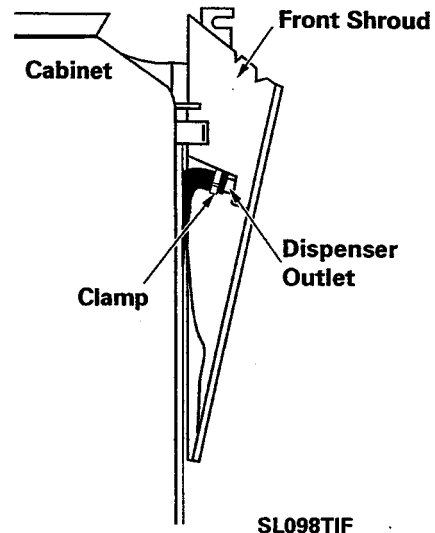

Figure 2-22
8. Carefully press in on the sides of the plastic shroud to allow the hose clamps on the dispenser outlet hoses to clear the metal bridge support surrounding the shroud (Figure 2-22).
9. Tilt the top of the plastic shroud forward at a 40 degree angle and slide the shroud to the right approximately one inch. **Note:** You may have to lightly press in on the the upper sides of the plastic shroud to enable the lower dispenser outlet hose clamps enough clearance to pass the metal side supports (Figure 2-22). Lift the shroud from the shroud support bridge.